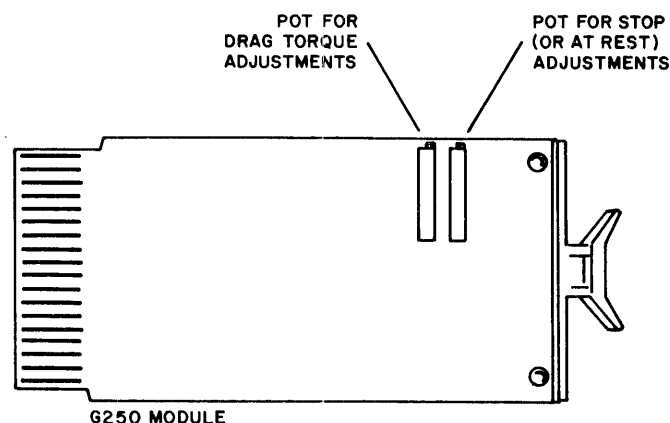

Figure 4-1 Module Adjustment Trimpots
- b. Mount a tape reel on the transport. Press the forward switch and watch the tape movement. The trailing torque of the left motor should be adjusted on the G850 Module A11 trimpot (as shown in figure 4-1). If the torque is too great it will impede the movement at the tape; and if too little, flapping or loose contact with the read write head will result. The technician who maintains the equipment might develop a "touch" so that by pressing his finger over the tape at the trailing reel he can tell if the tape is too tight or loose, simply by the stiffness of the tape while in motion.
- d. Press forward switch for a second or two and release it; the tape action while stopping should be smooth. If bouncing occurs, increase the stopping torque until bounce just disappears. This stop torque is maintained when the transport is not operating (which is most of the time) and excessive torque merely results in overheating the motor and hence the whole equipment. Torque adjustment is made on the appropriate pot (figure 4-1) on module A12.